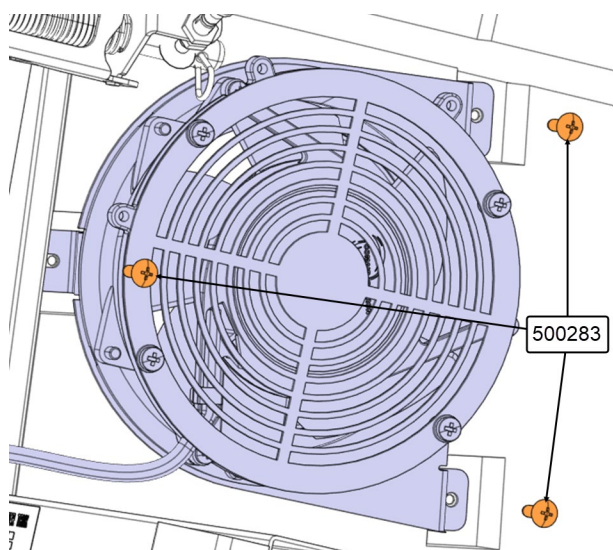

FIGURE 3
- **Figure 3:** With MCC fan installation, using screws 500283 (3x).